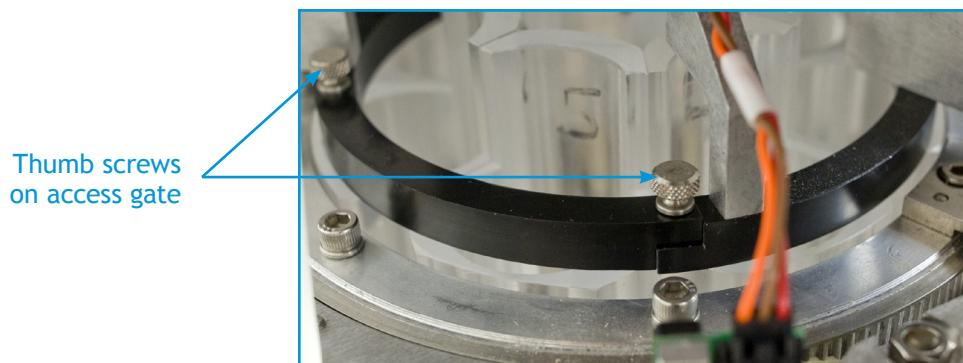

Figure 3-17: Carousel access gate
3. Remove the carousel access gate. Unthread the two thumb screws located at the ends of the gate and remove gate. See Figure 3-17.